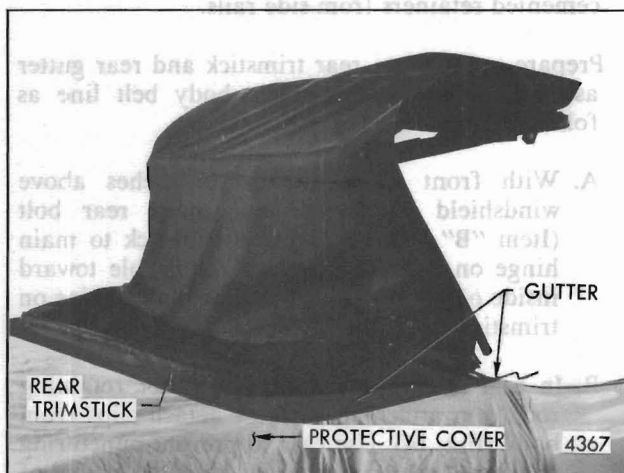

Fig. 9-Rear Trimstick on Rear Deck of Car
- C. Duplicate lifting operation on opposite side of body, and position center bow, rear trimstick and gutter assembly on protected rear deck of car as shown in Figure 9.